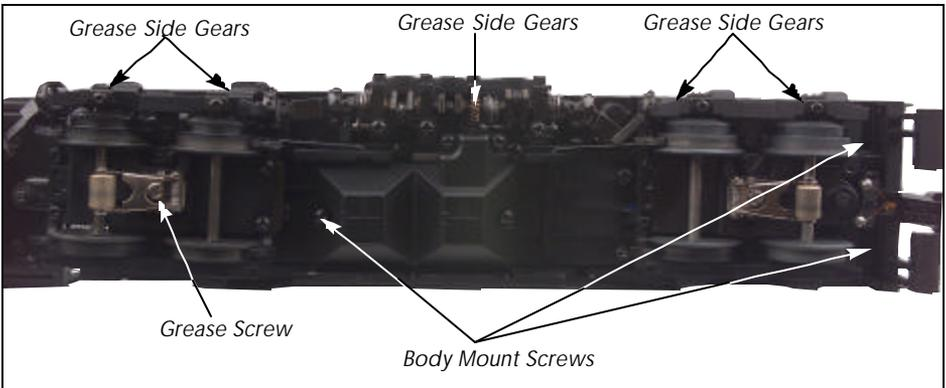
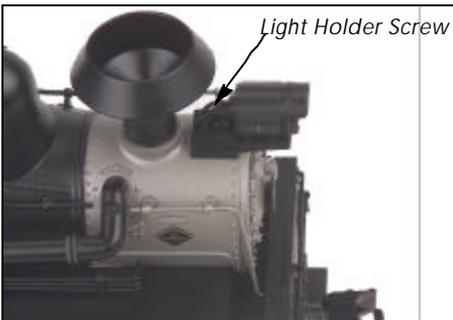
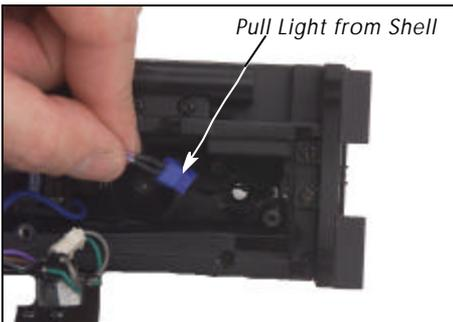

Figure 3 - Greasing points on the engine & location of body mount screws
Figure 7 - Replacing the Headlight
Figure 9 - Replacing the Headlight
1. Unscrew the Grease screw as shown in Figure 3 and use an applicator to apply grease into these screw holes.
Remove the locomotive boiler from its chassis as shown in figure 3 on page 9. Once the boiler has been removed from the chassis, remove the smoke unit from the boiler to gain access to the headlight connector. Next separate the connector as shown in figure 9. Carefully pull the bulb through the grommet in the back of the headlight shell. The headlight shell can be removed from the boiler to make the removal and replacement of the bulb easier as seen in figures 7 and 8. Thread the wires and the light bulb back through the hole in the boiler. Last, install the new bulb using the reverse procedure.